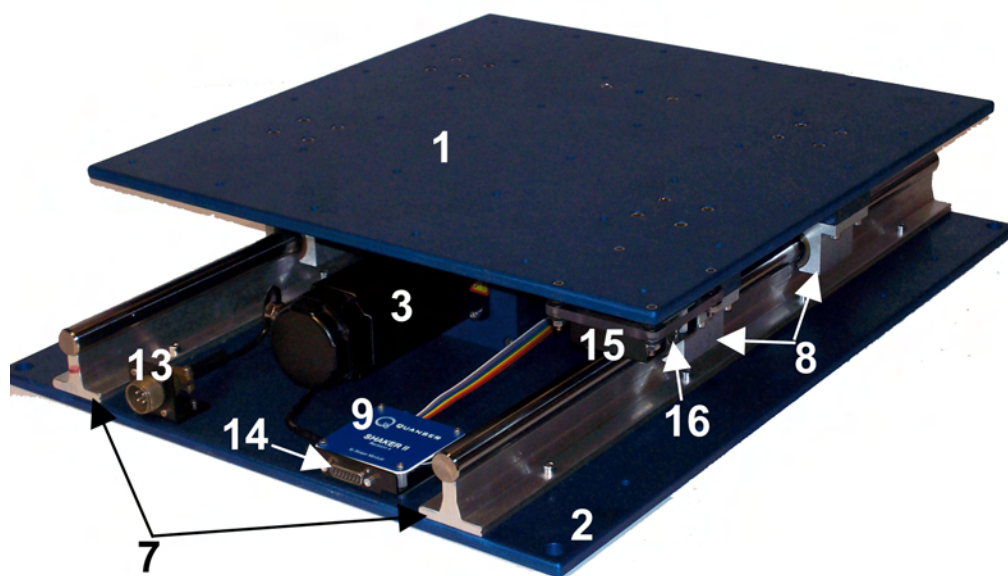
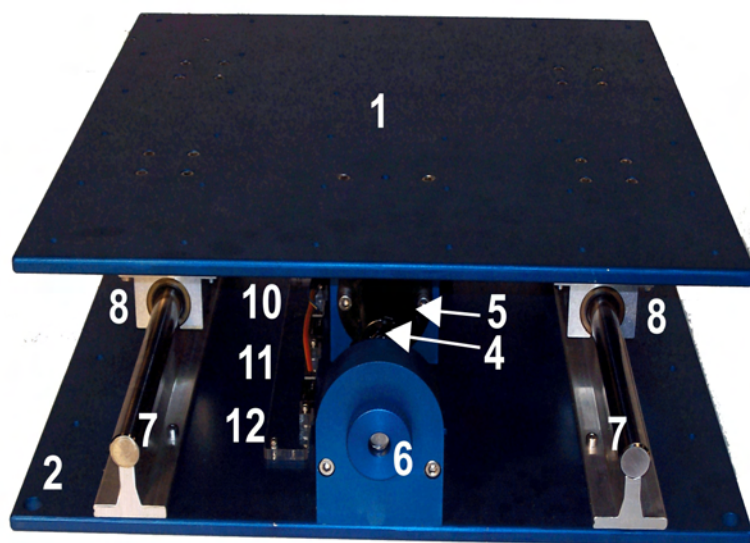

Figure 3: Top view of Shake Table II components.
Figure 4: Front view of Shake Table II components.
Table 1 provides a list of all the principal elements composing the Shake Table II system. The components are identified on the Shake Table II system in figures 3 and 4 through the corresponding identification (ID) numbers.
Table 2 below lists and characterizes the overall dimensions of the 18-inch by 18-inch top stage or platform of the Shake Table II system. It is labeled with ID #1 and shown in figures 3 and 4. As illustrated, the top plate has many screw holes that can be used to fasten structures and other objects such as the Quanser AMD-1 and AMD-2 structures (see Reference [5] and [6]).
The bottom support plate of the Shake Table II is pictured in figures 3 and 4 by ID #2 and its dimensions are given in Table 3. The metal shafts as well as the ball-screw are all fastened onto this plate. Notice that there are four large screw holes at each corner as well as smaller screw holes along the sides of the plate. These can be used to fasten the shake table onto a ground floor support to prevent the shake table system from moving, or at least reduce the amount of vibration. Although this is not necessary, it is recommended in order to yield more precise results when, for instance, measuring acceleration.
The Shake Table II incorporates a Kollmorgen AKM24 brushless 3-phase DC Motor, as shown in Figure 3 by ID #3. The motor has a power of 400 Watts. It is connected to a ball-screw that and drives the ball nut assembly fastened to the bottom of the shake table platform. The brushless commutation is ensured through three hall sensors with a phasing of 120 degrees. Some of the motor specifications are included in Table 4. More detailed motor specifications are available in Reference [4].
The lead screw, shown by ID #4 in Figure 4, circulates through a ball nut, component #5 in Figure 4, that is attached to the bottom of the shake table stage and is rotated by the motor. The lead screw has a pitch of 0.50 inches. Thus the shake table stage moves 0.50 inches, or 1.24 cm, per single ball-screw revolution.
For smooth motion, the stage is fitted with low friction linear ball bearing blocks, shown by ID #8 in figures 4 and 5, that glide on two ground hardened shafts, identified by component #7 in figures 3 and 4.
These *Left*, *Home*, and *Right*, proximity sensors are shown in Figure 4 with ID # 10, 11, and 12, respectively. The *Left* or *Right* limit switch get triggered when the top stage moves close to the left or right mechanical range. Similarly, the *Home* sensor is set to high when the top stage is at the mid-stroke or center position. These sensors are used by UPM-180-25B to deactivate the power amplifier for safety as well as for calibrating the stage to its center position.
An accelerometer is mounted underneath the top stage of the Shake Table II that measures the acceleration in both the x and y directions. It is shown with ID #15 label in Figure 3. The analog sensor is calibrated such that 1 Volt equals 1 g , or 9.81 m/s^2 .